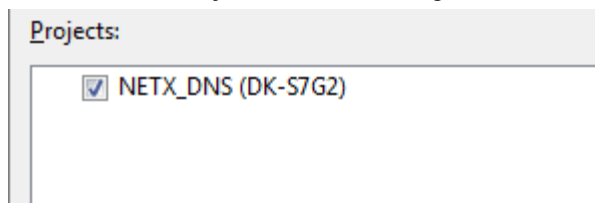

Figure 2.8 Import Existing Project dialog 2
- 12. Select the Project to import from the list of Projects, as shown in Figure 2.8.